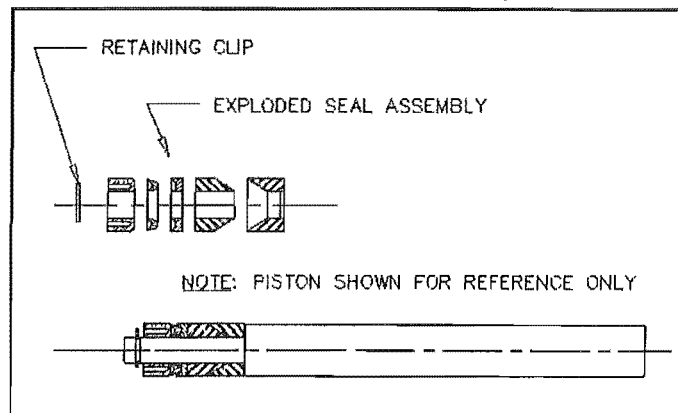

Figure 1
- a. The Seal, (Item #1) is installed onto the Piston, (Item #2) as shown in *Figure 1*. The seal is a five-piece design and is packaged with a replacement retaining clip and assembly schematic for quick reference. It is important to orient the seal as shown, otherwise leakage may occur. After the Seal, (Item #1) is installed into the Piston, (Item #2), a light coating of grease should be applied to the seal and piston assembly to assist with installation into the adapter bore.
- b. The seal and piston assembly (*Figure 1*) should be installed into the Adapter, (Item #12) by carefully inserting the seal and piston assembly into adapter and pushing it flush with the adapter end, refer to *Figure 2*.